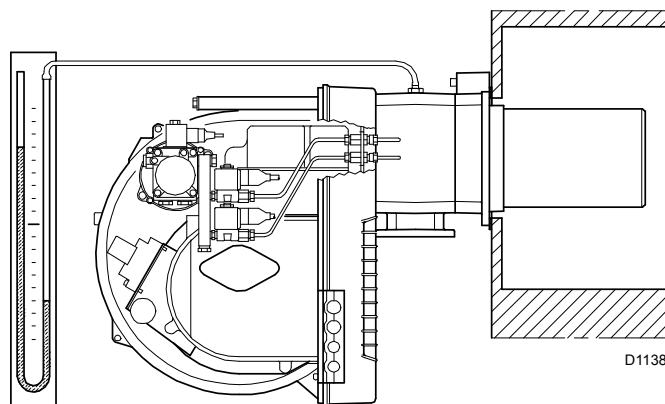

Fig. 35
- Fit a U-type pressure gauge (Fig. 35) to the gas pressure test point on the pipe coupling.
The arrival of gas to the sleeve is indicated by the U-type pressure gauge (Fig. 35).